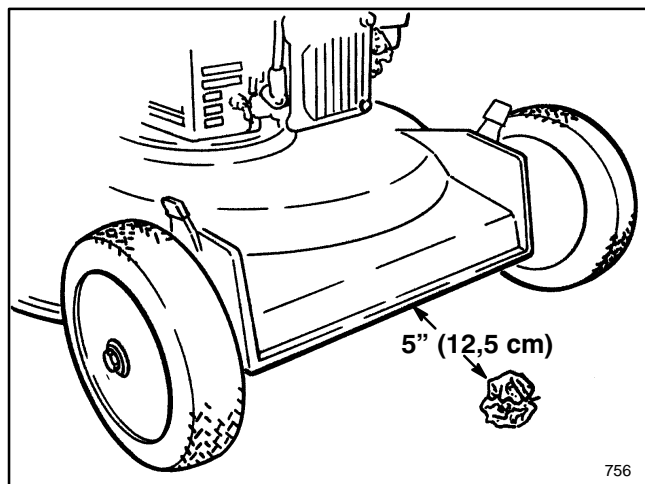

Figure 15
4. Take a half sheet of newspaper and crumple it into a ball small enough to go under deck (approx. three inches in diameter) (Fig. 15).
5. Place ball of newspaper five inches in front of mower (Fig. 15).
4. Take a half sheet of newspaper and crumple it into a ball small enough to go under the deck (approx. three inches in diameter) (Fig. 15).